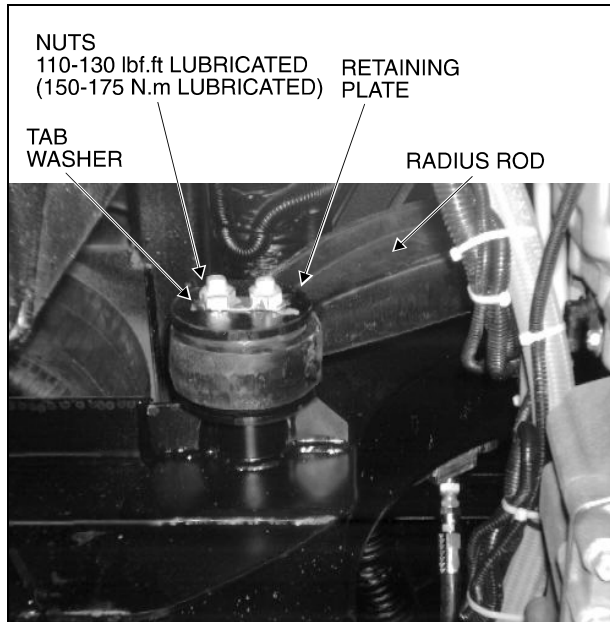

FIGURE 4
5. On left end of radius rod, flatten the tab washer which secures the two retaining nuts, then unscrew the nuts and remove retaining plate (Fig. 4).